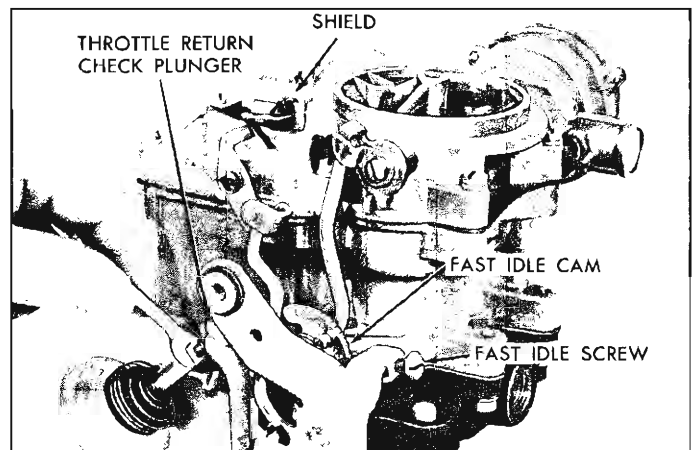

Fig. 40—Carburetor Throttle Return Check Adjustment
2. With an open end wrench, hold the throttle return check plunger as shown in Figure 40.